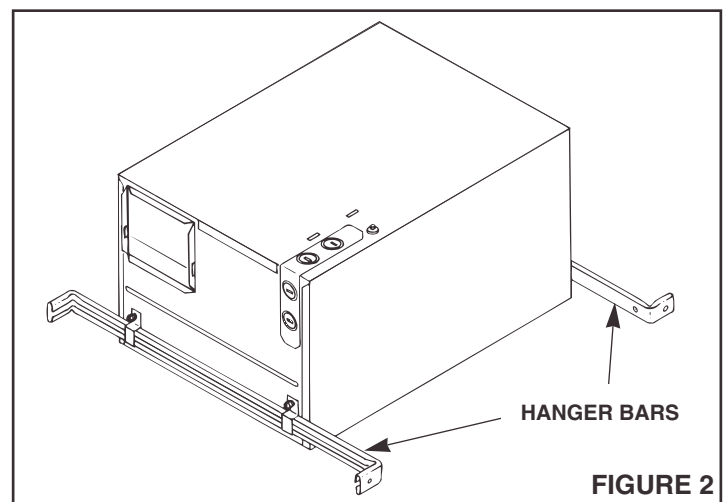

FIGURE 2
2. Refer to Figure 2. Insert hanger bars into brackets.